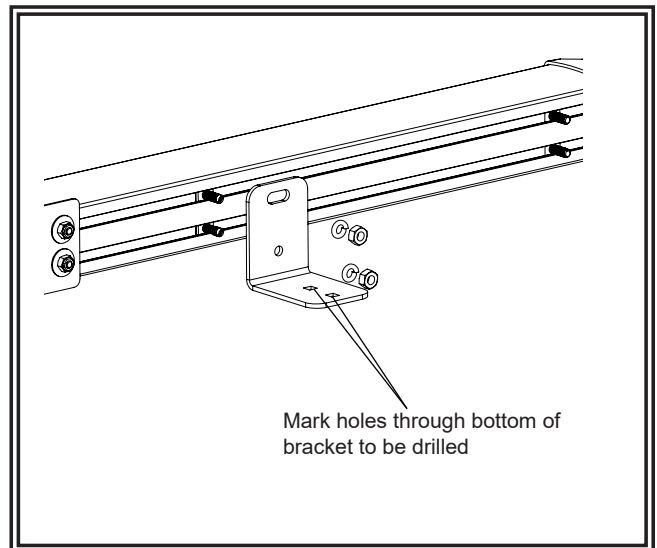

Figure 2
1. Loosely attach brackets to studs in Safety Director extrusion. See Figure 2.
3. Position Safety Director in desired location. Mark mounting holes using brackets as template. See Figure 2. Mark hole for wire passthrough, if required.